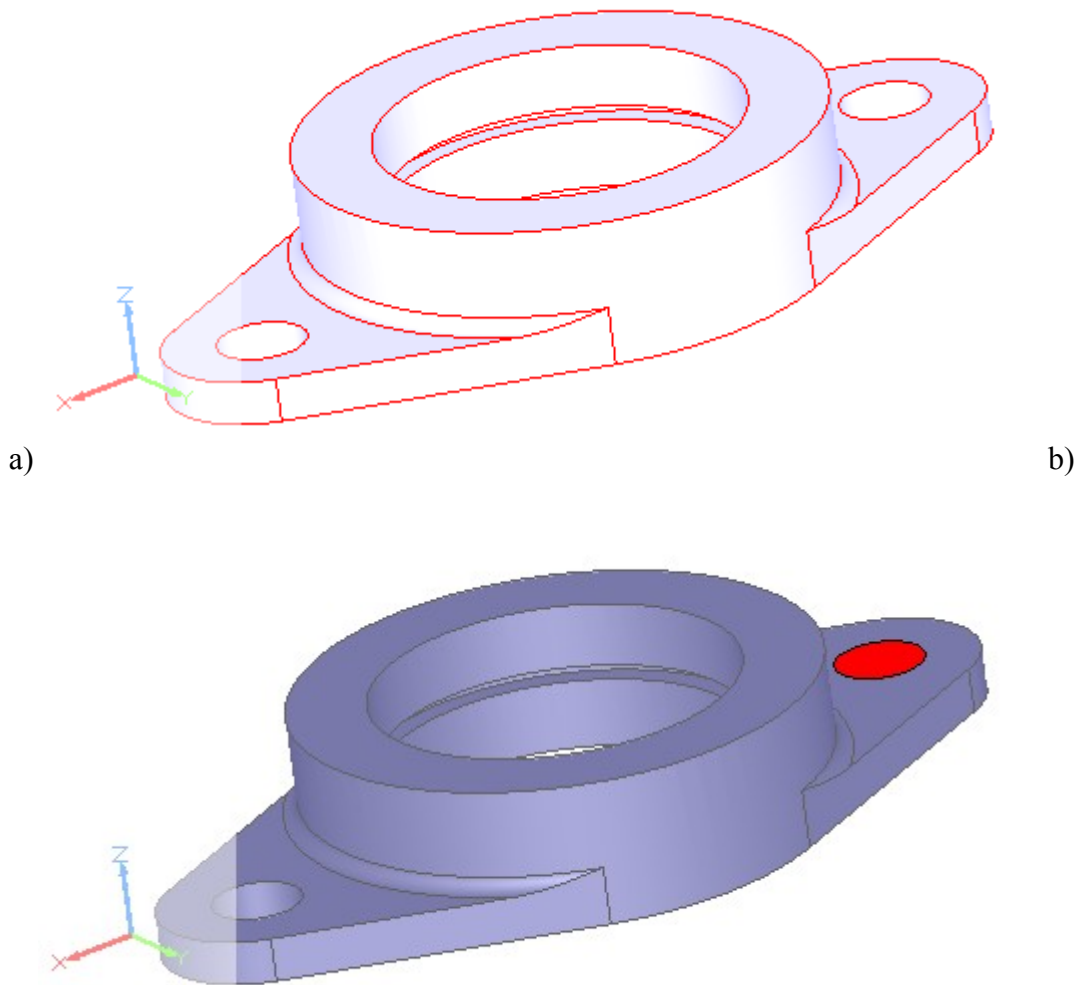

Figure 4. Applied ambient light colour 'lilac': a) normal, b) dark-lighted
- Back to the preferences page. Press **Apply** or **OK** buttons to apply the selected colour (see Figure 4).